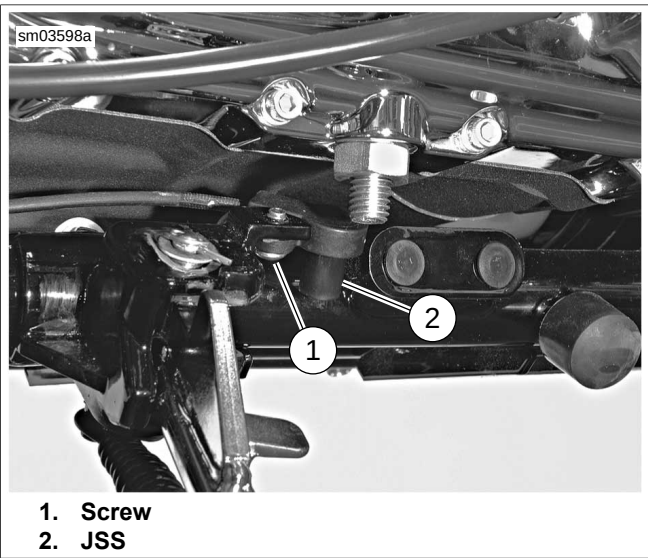

Figure 6-121. JSS
4. See Figure 6-121. Remove screw (1). Remove JSS (2) and harness.